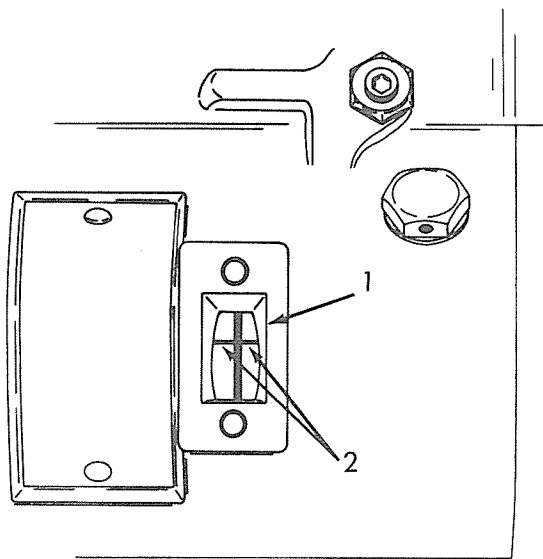
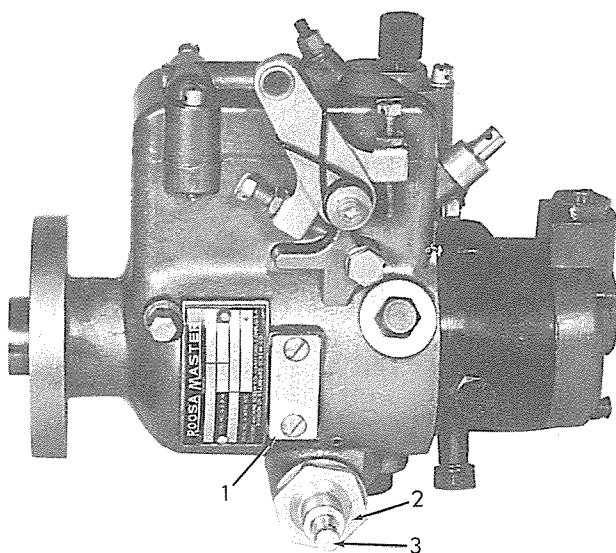
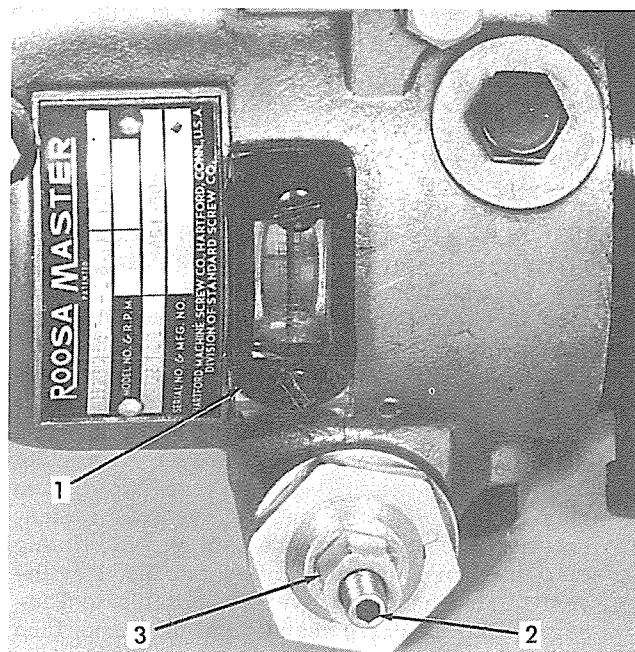

Fig. 4—Fuel Pump Timing Marks
Fig. 7—Roosa Master Fuel Injection Pump
Fig. 8—Timing Window Installed On
1. Remove timing window cover, Fig. 7 (1) and crank engine by hand until the fuel pump timing marks are aligned, Fig. 4 (2).
2. Remove timing window cover from side of fuel injection pump and observe timing marks through window, Fig. 4. If both timing marks do NOT appear, rotate engine one complete revolution and again bring timing mark on flywheel into alignment with pointer. Both timing marks, Fig. 4, should now appear in timing window and the engine is timed so that the No. 1 piston is near the top on its compression stroke and the fuel injection pump may be removed from the engine. The engine will not have to be repositioned when the pump is installed, providing the position of the engine crankshaft is not changed prior to reinstallation of fuel injection pump.
1. Remove the timing window cover from the fuel injection pump. There are two timing marks, Fig. 4, one on the governor weight retainer hub and one on the cam ring for timing the pump for injection of fuel into No. 1 cylinder. Using a screwdriver or suitable tool inserted into the drive shaft end of the pump, turn the distributor rotor until the timing marks are aligned.
Some of the Roosa Master fuel injection pumps are equipped with an automatic timing advance, Fig. 7 (2). The function of the automatic advance, is to advance the timing automatically as the engine speed increases.
The specified advance, as the engine speed increases, is 2° at 1000-1200 rpm and 12° at 1600-1800 rpm. A plastic timing window, Fig. 8 (1), Roosa Master tool number 13366, is required to test and adjust the automatic timing advance. Test and adjust as follows:
2. Remove timing window cover, Fig. 7 (1), and install plastic timing window, Fig. 8 (1).
6. To adjust the timing advance mechanism, remove the adjusting screw cover, Fig. 7 (3), and loosen the lock nut Fig. 8 (3). Using a #4 (1/8") Allen wrench turn the adjusting screw, Fig. 8 (2), until the specified advance is attained. Turning the adjusting screw clockwise retards the timing; counter-clockwise advances the timing. Securely tighten the lock nut, Fig. 8 (3), after each adjustment.
- j. Place spring and thrust button, Fig. 8, in position in end of pump shaft. Rotate the pump drive gear until the timing marks on the fuel injection pump are aligned, Fig. 4. Hold the gear in this position and carefully install the assembly on the timing gear housing so that pump drive gear meshes with the dual gear on the camshaft gear.
- k. With cover, Fig. 7 (5), in position on timing gear housing, make certain pump timing marks are still aligned. Slight misalignment must be corrected by loosening the pump mounting stud nuts and rotating the pump, however, if misalignment is too great, remove the pump drive gear and re-install it so that it meshes with the camshaft gear one tooth removed from the former position. Repeat until proper pump timing mark alignment is attained.